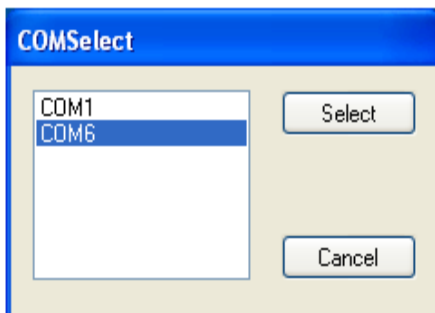

Figure 2 COM Port Selection Window
3. Select the associated COM port from the **COMSelect** window (Figure 2). Click **CONNECT**. Observe that the connect status in the lower left corner of the window reads *Connected*.